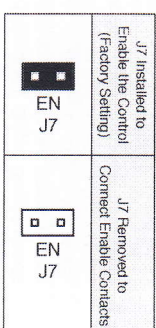

FIGURE 22 – STOP SWITCH TYPE SELECTION
G. Enable Selection (J7) – Jumper J7 is factory installed to enable the control. If connecting Enable contacts to Terminals EN1 and EN2 of Terminal Block TB3, remove Jumper J7. See Figure 22.